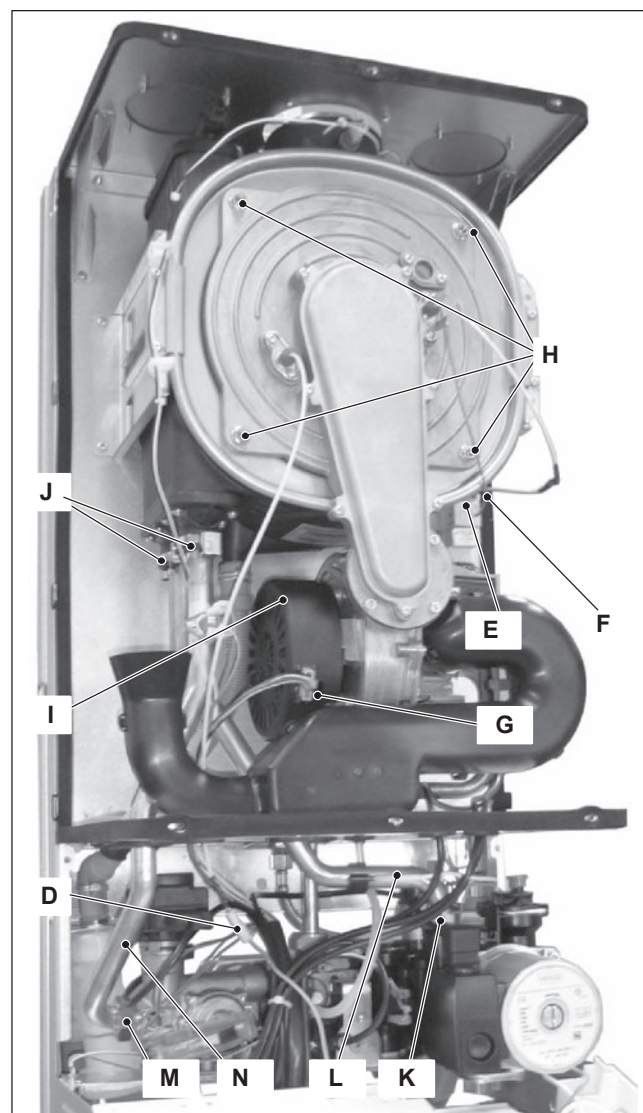

Figure 5.2
- 4 Disconnect the fan connector G by pressing the plastic hook placed on the side of the connector (Figure 5.2).
- 5 Unscrew the nuts H (Figure 5.2).
- 8 Remove the clips J (Figure 5.2).
- 9 Loosen the connection K and slightly move the pipe L upwards, turn it towards left (Figure 5.2) and then move the pipe downwards freeing it from the Condensing heat exchanger.
- 10 Loosen the connection M and slightly move the pipe N upwards, turn it towards left (Figure 5.2) and then move the pipe downwards freeing it from the Condensing heat exchanger.
Ensure to tighten the nuts H - Figure 5.2 firmly.